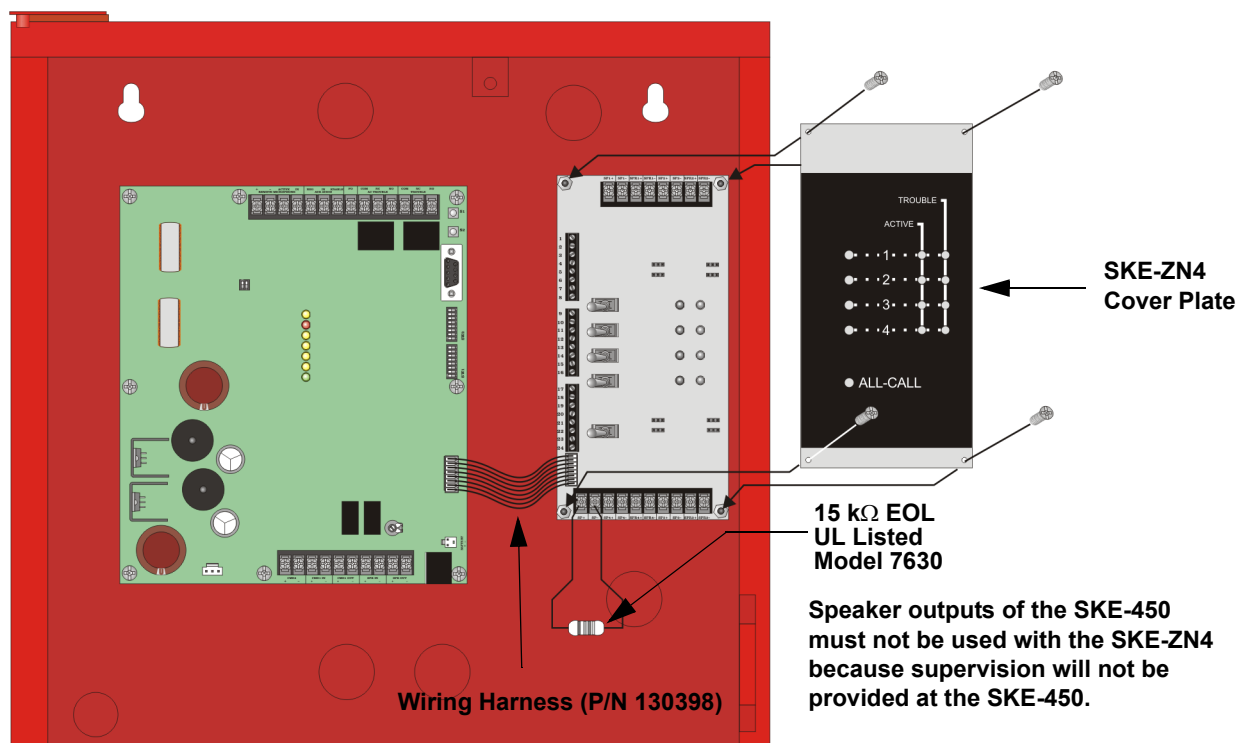

Figure 5-5 View With SKE-ZN4 Installed
5. Connect wiring harness to the expansion connector on the SKE-450 and to the direct connect pins on the SKE-ZN4. See Figure 5-5.
7. Attach the SKE-ZN4 cover plate to the SKE-ZN4. See Figure 5-5.
In order to gain access to the terminals on the SKE-ZN4, the cover plate must be removed. See Figure 5-5.